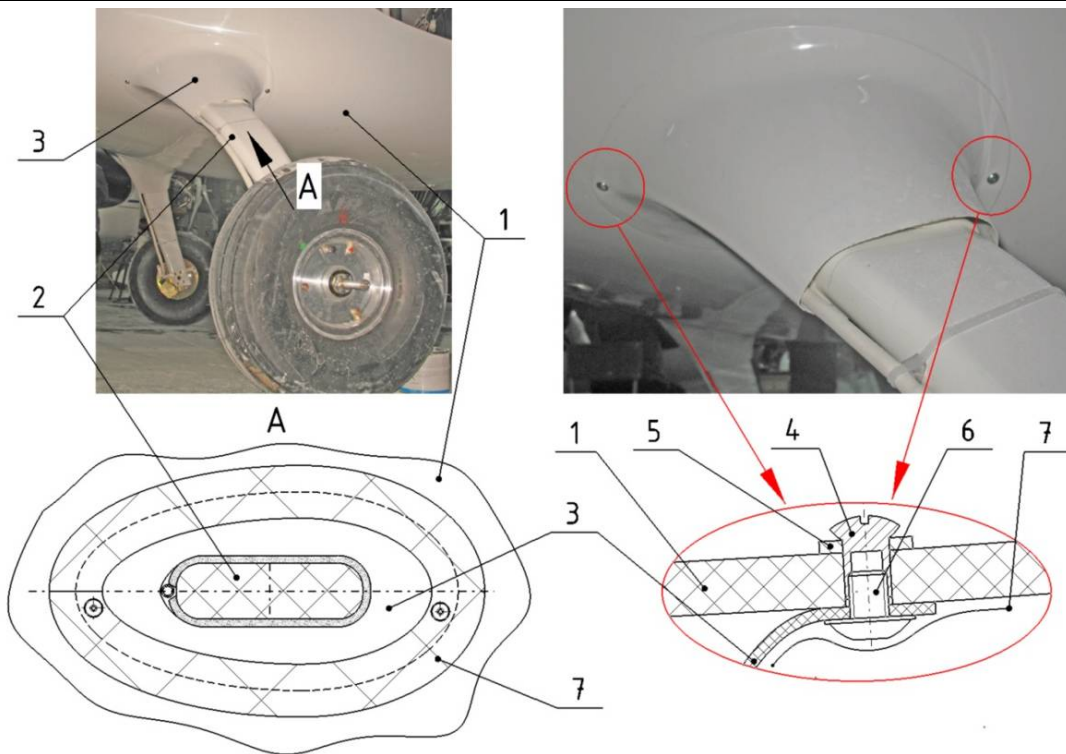

Fig. 32-10-9
B. Main Strut Fairing Removal and Installation (Fig. 32-10-9)